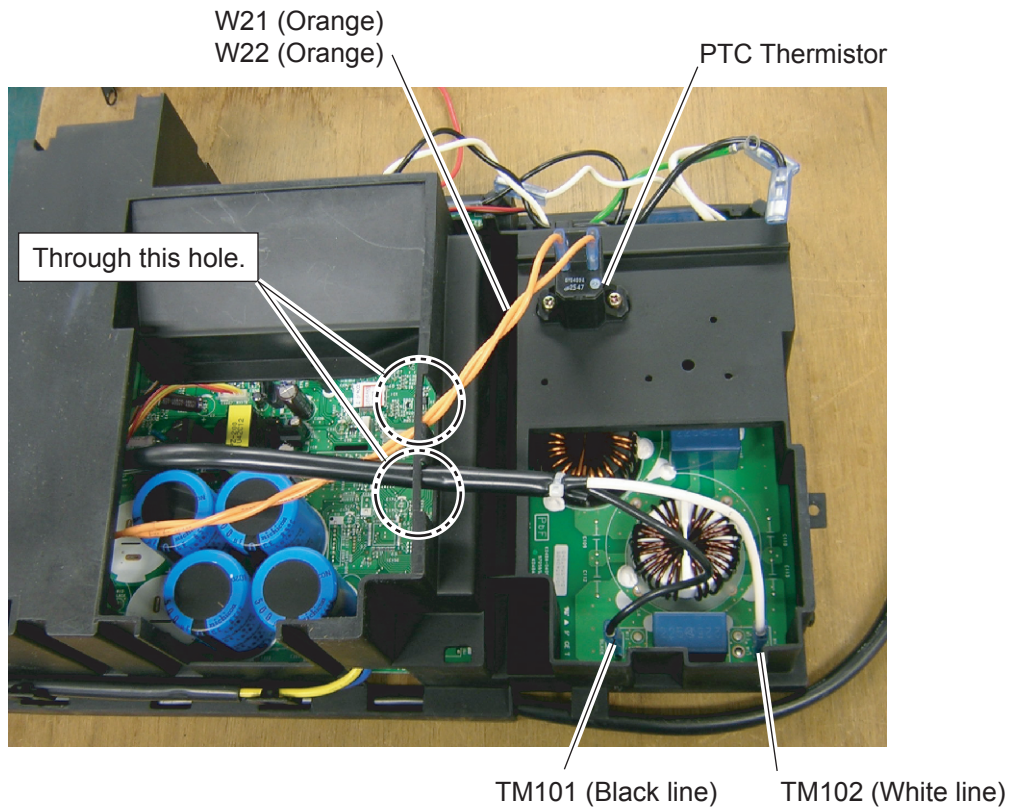

Fig. 9
- As shown in Fig.9, connect wires.